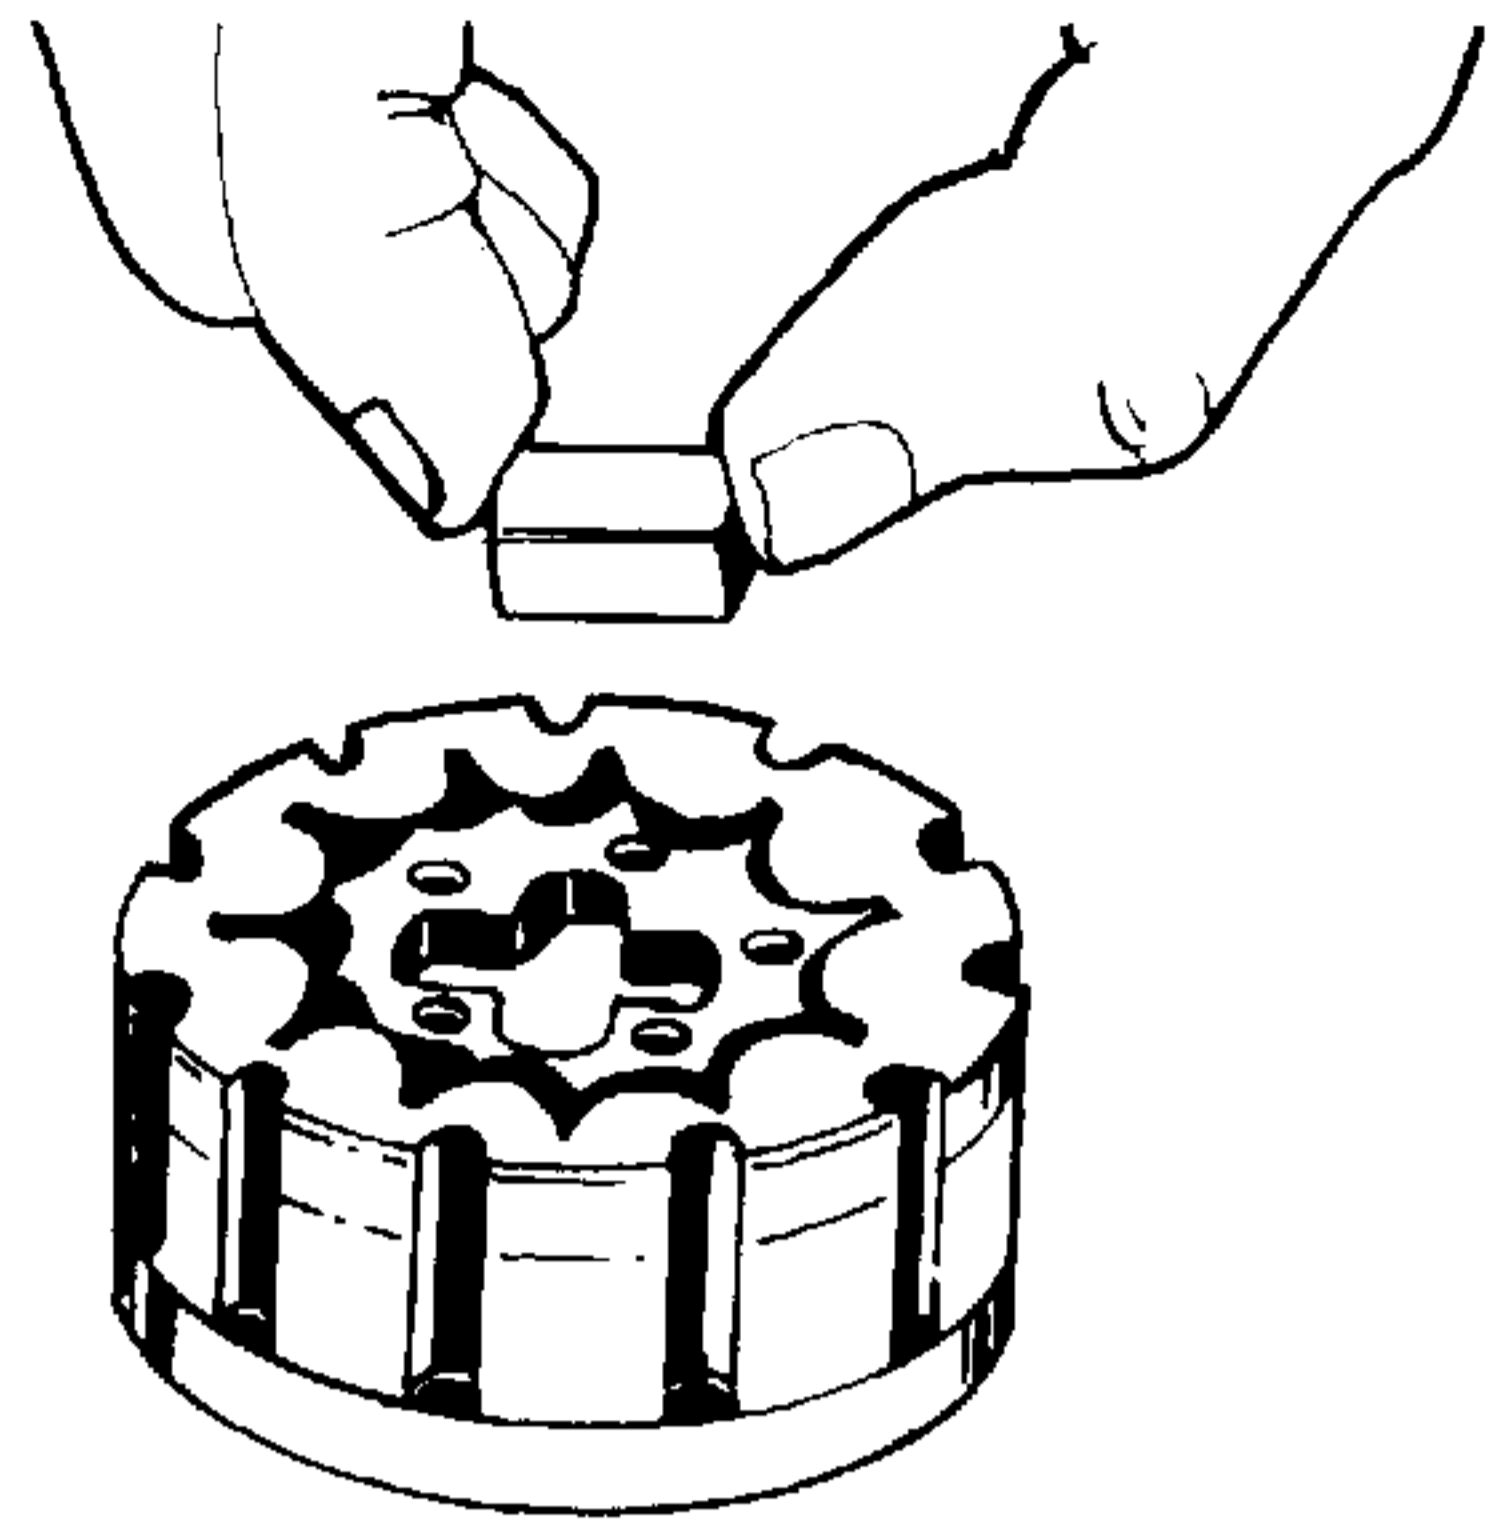

Figure 4-55. Inserting Drive Link Spacer Into Rotor Drive Slot.
10. Place the drive plate (24) on a clean lint-free surface with the eleven tapped holes facing up. Place the rotor (22) and stator (23) on top of the drive plate with the five needle roller holes facing up. Rotate the stator (23) until the eleven hex socket head screw relief slots are aligned with the tapped holes in the drive plate. See Figure 4-55.